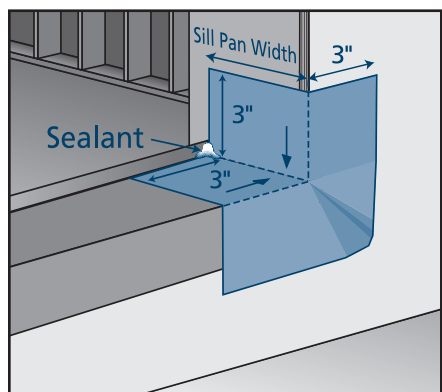

Fig. 9 Apply self-adhered flashing (step-down landing)
- Adhere to one bottom corner tightly at 90° with 3" up the side and overlap onto the vertical face of the rise (**Fig. 9**); do not stretch or tear flashing; eliminate as many wrinkles as possible.
4. Seal back corners of sill pan with sealant (**Fig. 9**).